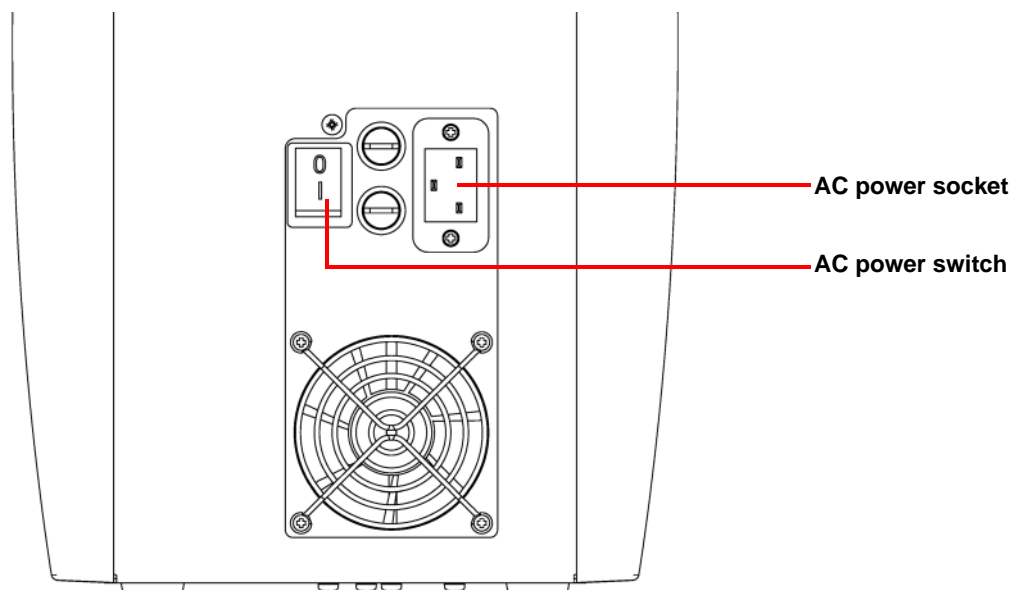

Figure 20 Lower back panel of electronics box.
- 1 Plug the AC power cord into the AC power socket on the lower back panel of the electronics box. Refer to Figure 20.
- 2 To power on the system, press the power switch on the electronics box to the On (I) position.
- 4 Power on the system by pressing the power switch on the electronics box to the On (I) position. Refer to Figure 20 for power switch location.
- 1 Turn off the power to the system by pressing the power switch on the electronics box to the Off (O) position. Refer to Figure 20 for power switch location.